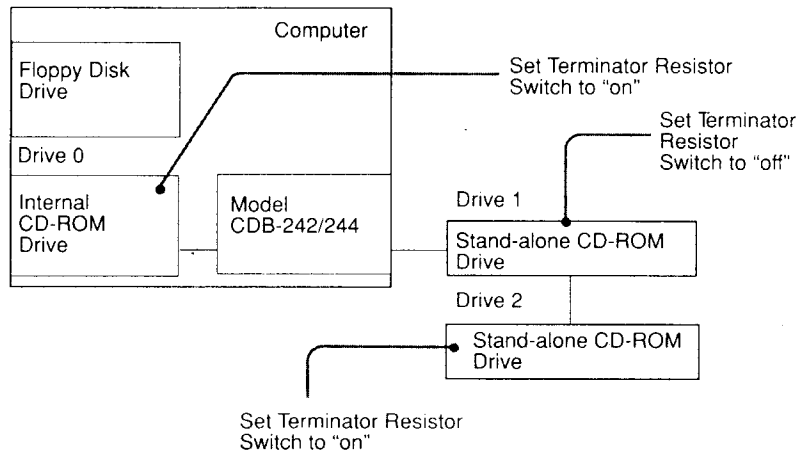

Figure 4-6. Sample Settings for the Terminator Resistor Switches
- 2 Set to "on" the terminator resistor switches on the internal drive and on the last stand-alone drive connected to the card. For any other stand-alone drives connected to the card, set the terminator resistor switches to "off" (see Figure 4-6).